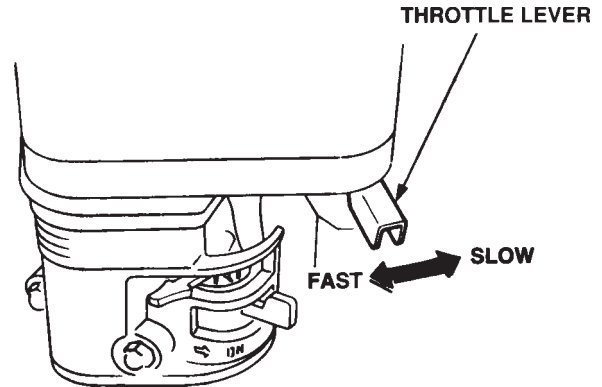

Figure 23. Throttle Lever
- Place the **throttle lever** (Figure 23) halfway between **fast** and **slow** for starting. All sawing is done at full throttle. The engine governor speed is factory set to ensure optimum blade operating speeds.
3. Place the *engine throttle lever* (Figure 23) in the **slow** position, and let the engine idle for 3-5 minutes.